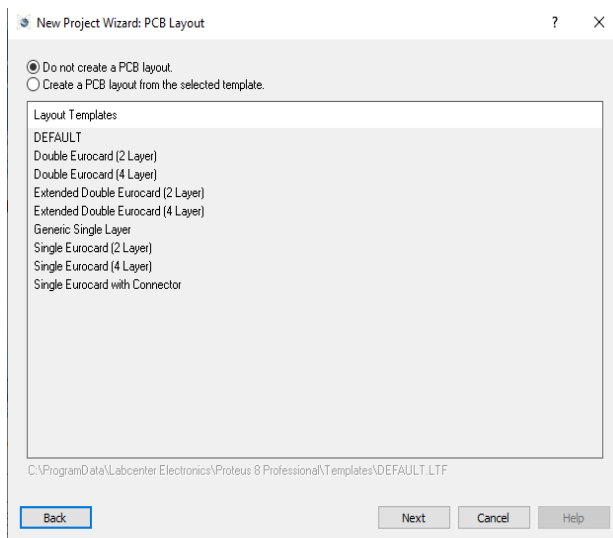

Figure 4: New Project Wizard: PCB layout
Step 5: Click on a circle that says do not create a PCB layout and click on Next (figure 4).